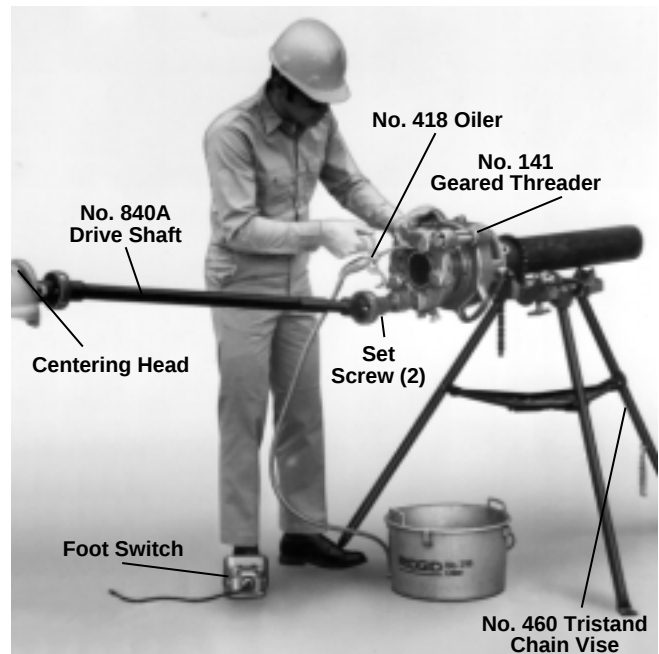

Figure 19 – Threading Pipe using No. 840A Universal Drive Shaft
Refer to Figure 19.
6. Loosen two (2) set screws (Figure 19) and remove universal drive shaft from threader.